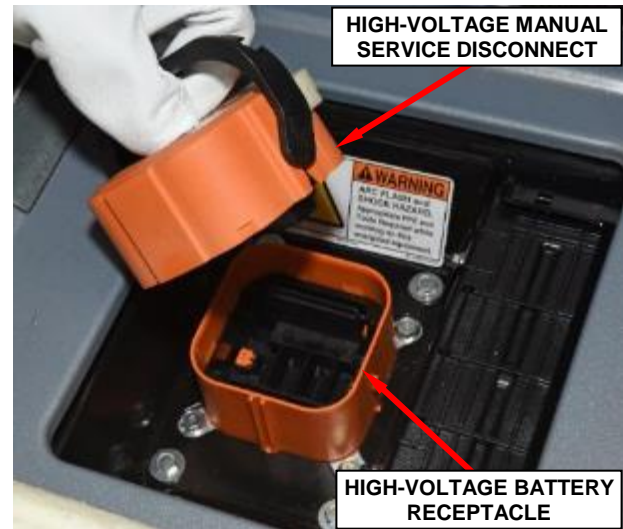

Figure 16 – High-Voltage Manual Service Disconnect and Receptacle
8. Pull straight up on the service disconnect lever to disengage and remove the high-voltage manual service disconnect from the receptacle (Figure 16).